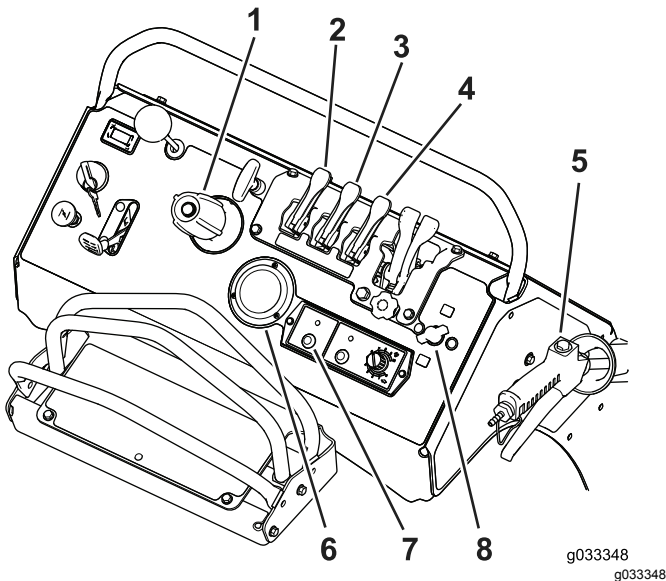

Figure 41
8. Set the sprayer-pump switch to the ON position (Figure 41).